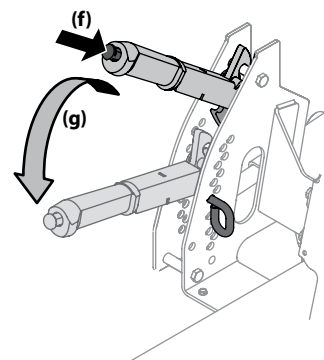

Figure 3-13
3. Depress the button at the end of the handle lift lever (f) and raise it slightly to unhook it from the upper spacer on the deck height index bracket and carefully lower into the desired position (g). See Figure 3-13.